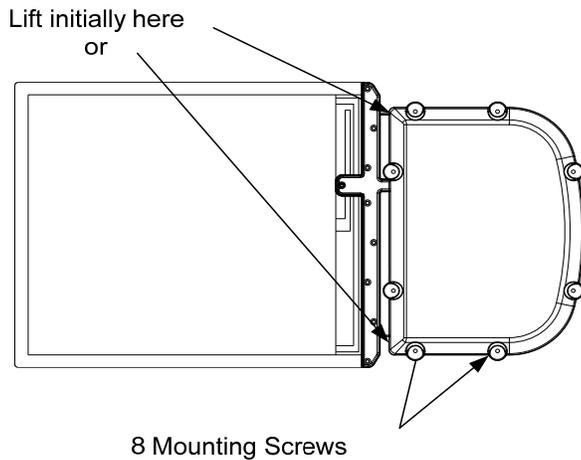

Figure 6.2
- 6.2. Remove the 8 electronic module mounting screws that hold the electronic module (EM) in place using the Torx bit and a driver see Figure 6.2